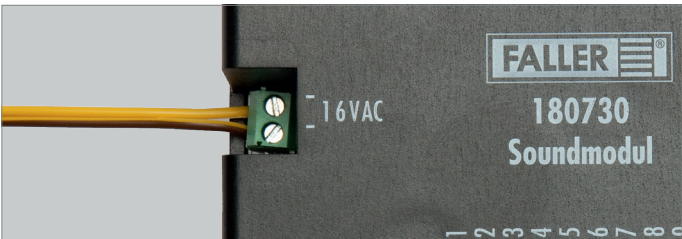

Fig. 2: Connecting the Sound module
- ▶ Connect the Sound module to 16 V alternating voltage, see Fig. 2. The Sound module is thus connected to its supply voltage.